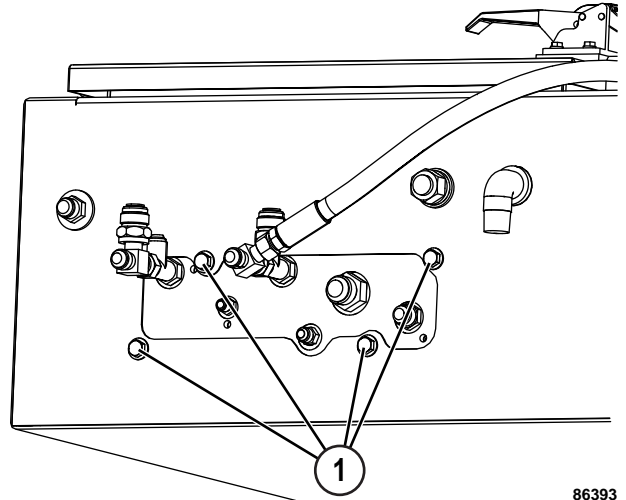

FIGURE 50-11. BRAKE MANIFOLD REMOVAL & INSTALLATION
- Remove mounting hardware (1, Figure 50-11) from the bottom of the hydraulic brake cabinet and move the brake manifold to a clean work area for disassembly.
- Place the brake manifold into position in the hydraulic brake cabinet. Install and tighten mounting hardware (1, Figure 50-11) to the standard torque.
- Install brake accumulators (3) in the accumulator mounting clamps and on the fittings on top of brake manifold (2). Tighten the fittings and clamp hardware to the standard torques.